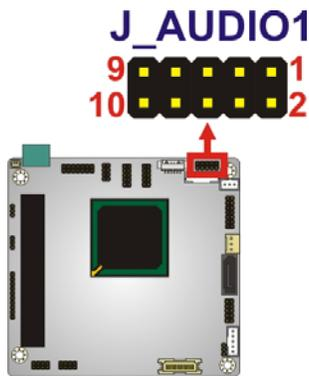

Figure 3-4: Audio Kit Connector Location
- CN Location:** See **Figure 3-4**